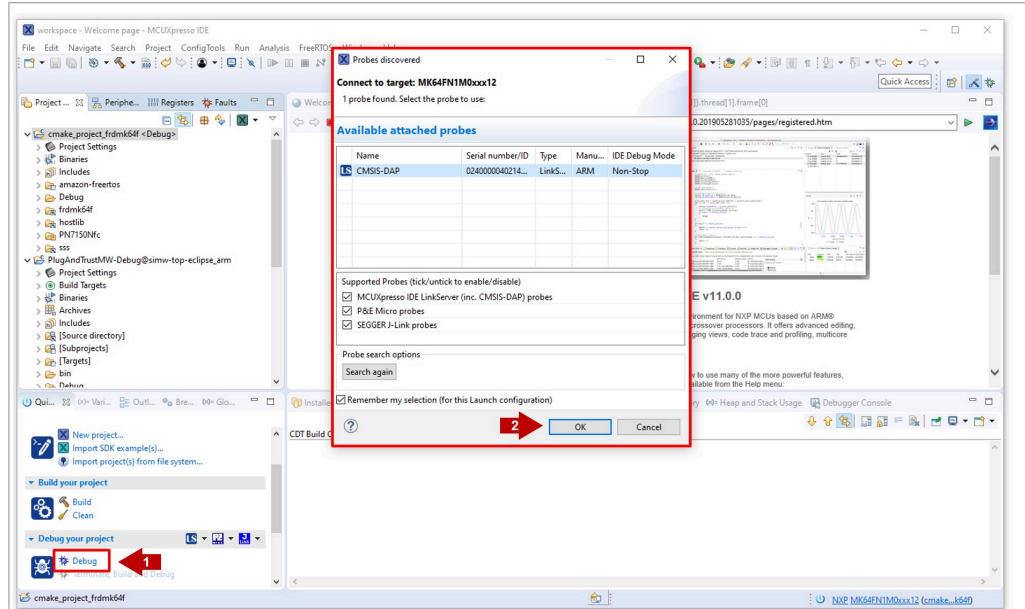

Figure 42. Debug se05x_minimal project example
- Go to the MCUXpresso Quickstart Panel and click **Debug** button as shown in Figure 42. If there is more than one probe attached, you have to select the CMSIS-DAP debug probe from the list. Wait a few seconds until the project executes: